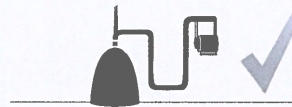

Fig. 22 Pump positioned above hot-water cylinder
- Fit a downward loop of at least 450 mm if the pump is positioned above the hot-water cylinder. See fig. 22.